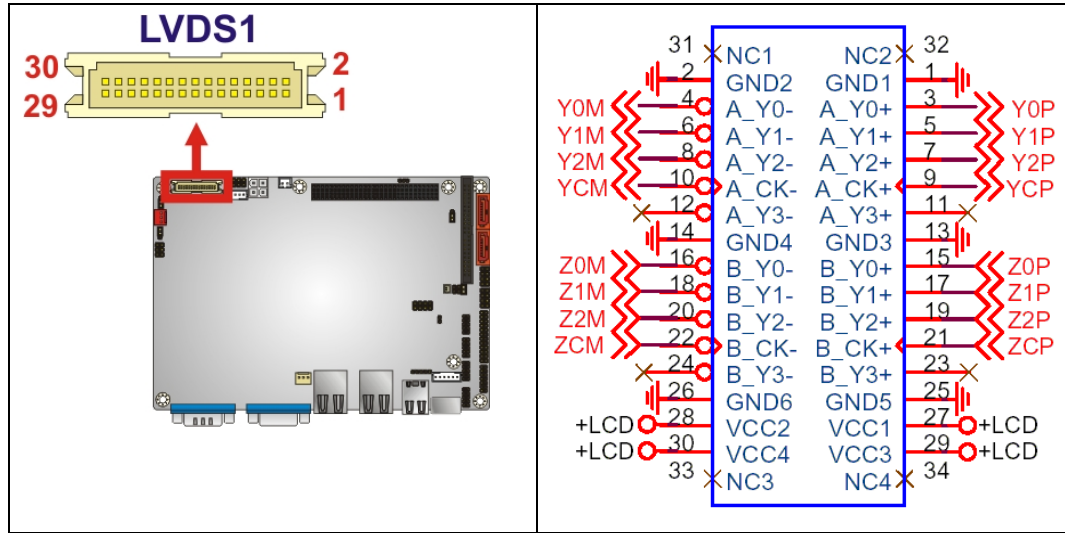

Figure 4-14: LVDS LCD Connector Pinout Locations
- CN Location:** See **Figure 4-14**